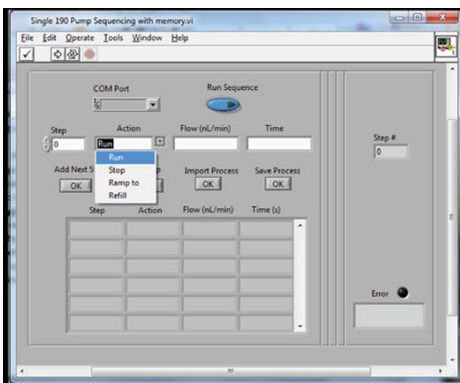

Fig. 25—Selecting a pumping action
1. Select an Action: Select an action from the drop down list shown in Fig. 25. You can see this list by clicking on the arrow next to the Action item box. There are four possible actions you can choose: